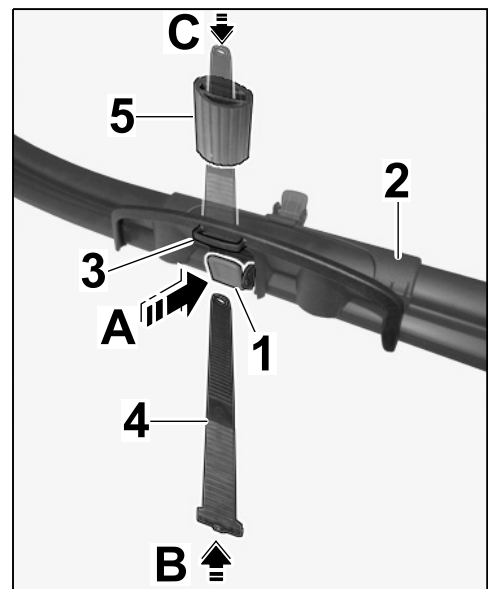

Figure 9
1.5.1 Press turnbuckle, on the side with the tab, on the wheel mount (⇒ *Figure 9-A-*).
1.5.2 Push tension strap as far as it will go through the turnbuckle from below (⇒ *Figure 9-B-*).
1.5.3 Fit rim protector as far as it will go onto the tension strap (⇒ *Figure 9-C-*)